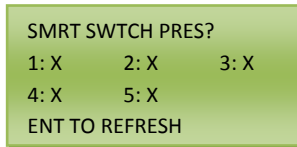

Figure 16.2
- a. This action allows the user to see how many Smart Switches are presently hooked up to Time-Keeper®. See Figure 16.2 for a visual example.